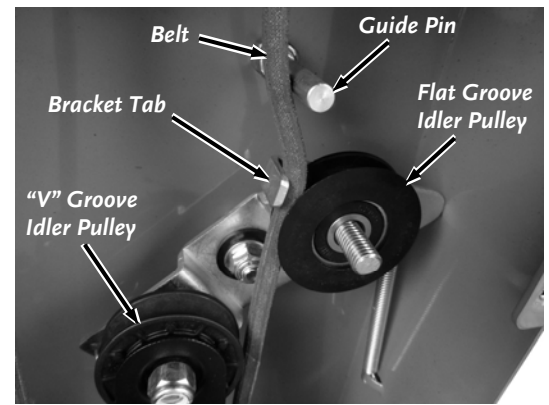

Figure 30
12. Install the small Spacer and flat Idler Pulley (**Figure 30**). Make sure you place the Belt correctly between the Idler Pulley, Bracket Tab, and Guide Pin.
The Belt must be installed on the inside of the guide Pin as shown in figure 30. If it is not installed on the inside the Trimmer Head will not function correctly.